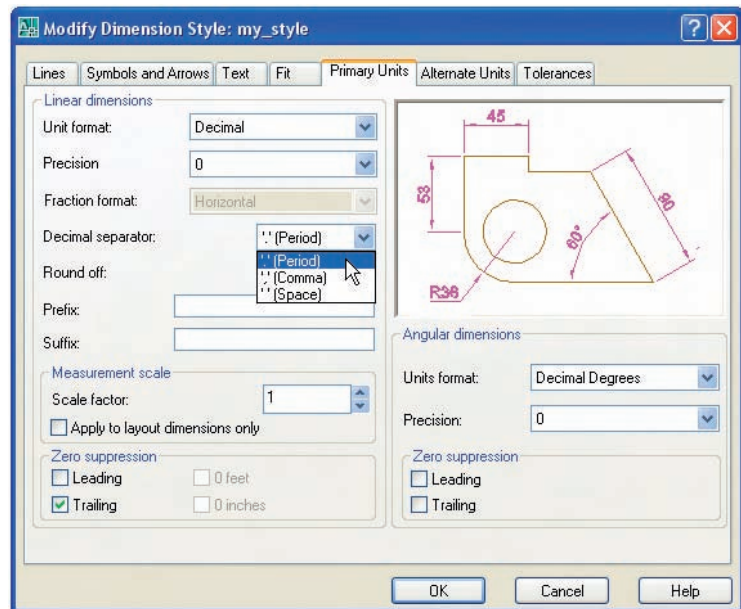

Fig. 4.14 Setting units in the **Primary Units** sub-dialog
6. Then *click* the **Primary Units** tab and set the units **Precision** in both **Linear** and **Angular dimensions** to **0**, that is no units after decimal point. *Click* the sub-dialogs **OK** button (Fig. 4.14). The **Dimension Style Manager** dialog reappears showing dimensions, as they will appear in a drawing, in the **Preview of: my_style** box. *Click* the **Set Current** button, followed by another *click* on the **Close** button (Fig. 4.15).